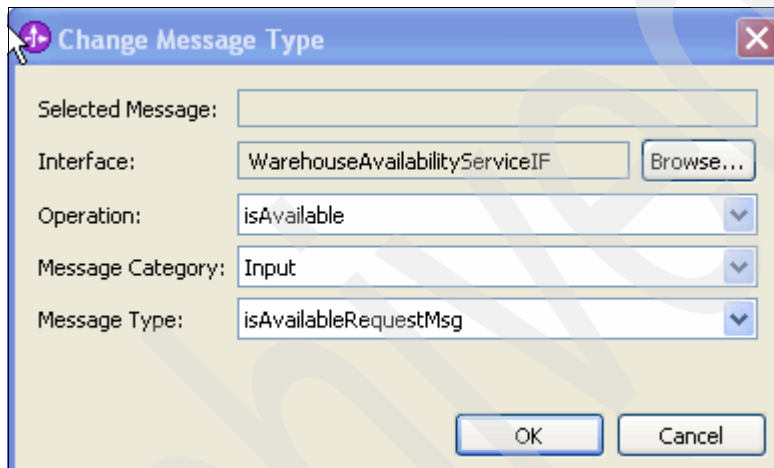

Figure 6-33 *InvokeToService* output message type
d. Click **Browse** next to the Output Message Body to open the Change Message Type panel (shown in Figure 6-33). Then, complete the panel options as follows: